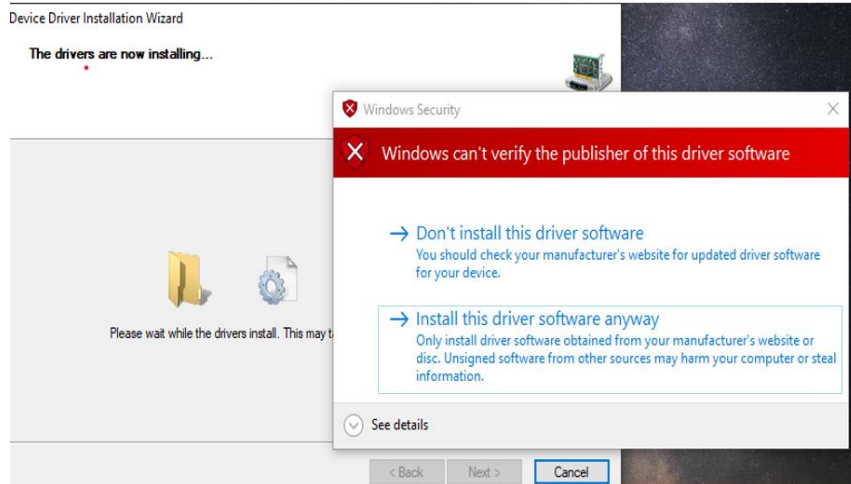

Figure 5.34. Windows Security in Driver Installation
8. If user receive a Windows Security prompt, select **Install this driver software anyway** as shown in Figure 5.34.